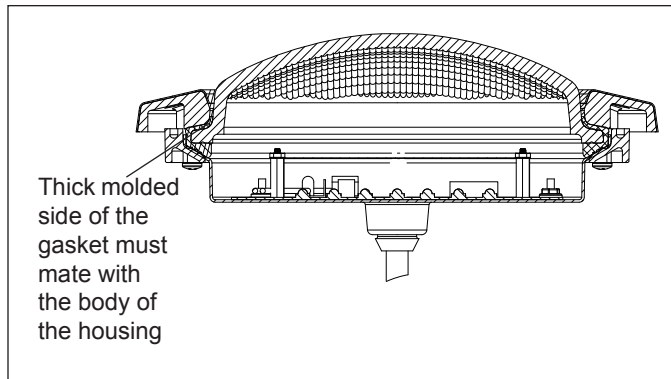

Figure 10. Cross Section of Jandy WaterColors LED Light
- b. While holding the fixture upright, place the glass lens with the gasket on top of the fixture. Please note that the lens gasket is not symmetrical. Therefore, it must be installed correctly so that the lens can seal to the fixture housing. Place the gasket on the lens so that the thick molded side of the gasket will mate with the housing when the lens is installed. See Figure 10. On the small light, replace the diverger by tucking the tabs between the lens and gasket.